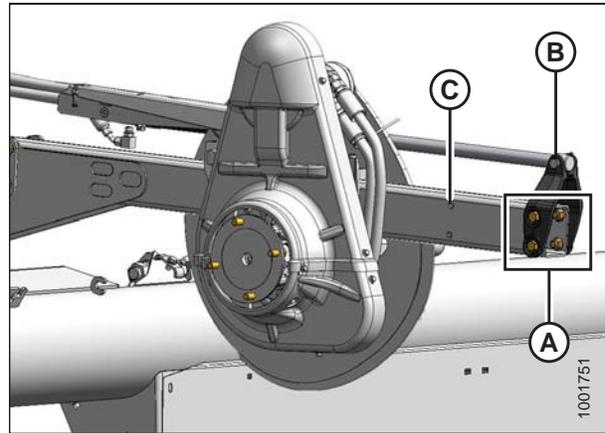

Figure 3.72: Forward Position
3. Remove four bolts (A) securing cylinder bracket (B) to reel arm.
4. Position reel until bracket (B) lines up with desired position holes (C):
- Forward position, refer to Figure 3.72, page 84